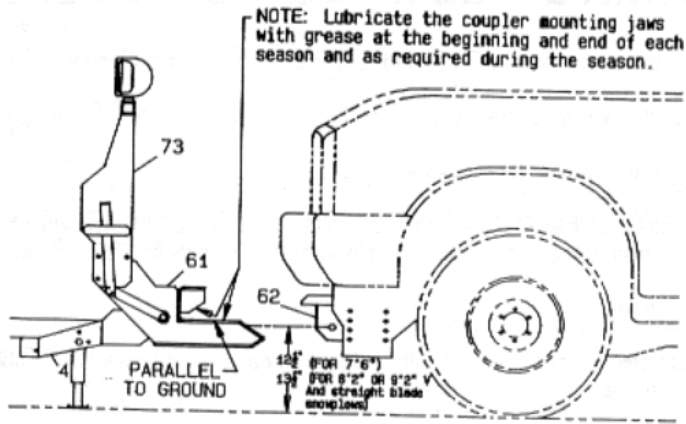
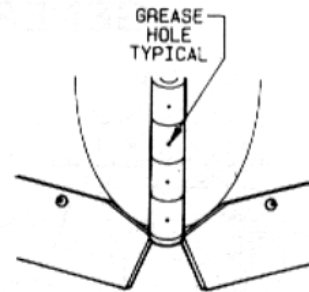

Figure 2
Figure 5
- Adjust the kickstand so that the top of the coupler jaw is approximately 1/2" higher than the bottom of the pushbeam rod. (See Figure 2)
Lubricate the hinge pin with grease when taking the plow out of storage and once a month during the season. (See Fig. 5)
6. Lubricate the vertical hinge pin and coupler mounting jaws (Fig. 2 & 5).
7. Lubricate the hinge pin (Fig. 5) and the coupler mounting jaws (Fig. 2).